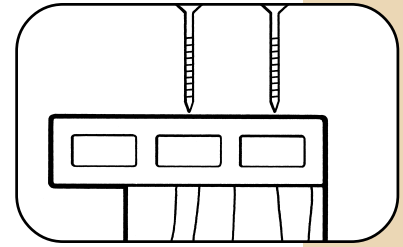

Fig. 38
- Overhang the Top Rail on the outside of the 4x4 (outside the Rail) to allow room for the TimberTech Side Rail (when installed) to be flush with the side of the Top Rail (Fig. 38).
- Pre-drill and place two #8, 2-1/2" stainless steel or galvanized deck screws through the Top Rail into each 4x4 post (Fig. 38). There should be a minimum 1/16" gap between each Top Rail to allow for expansion and contraction.